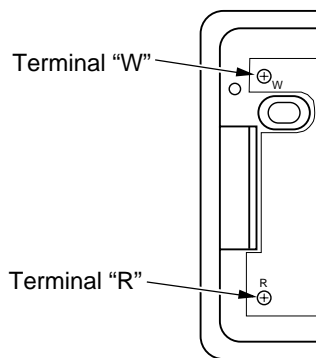

Figure 43 - Thermostat Base Terminals "W" and "R"
- Connect one bare wire end to each terminal ("W" and "R") of the thermostat base (see Figure 43).